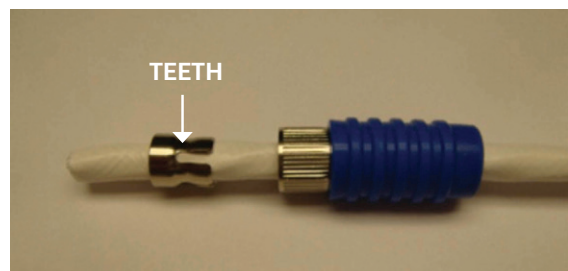

Figure 25: Sliding components onto the cable
1. With the blue rubber end closest to the cable, slide the backshell onto the plug end of the cable. Then, with the teeth closest to the cable, slide the inner ring onto the plug end of the cable (Figure 25). Push both components up the cable, and tape them out of the way.